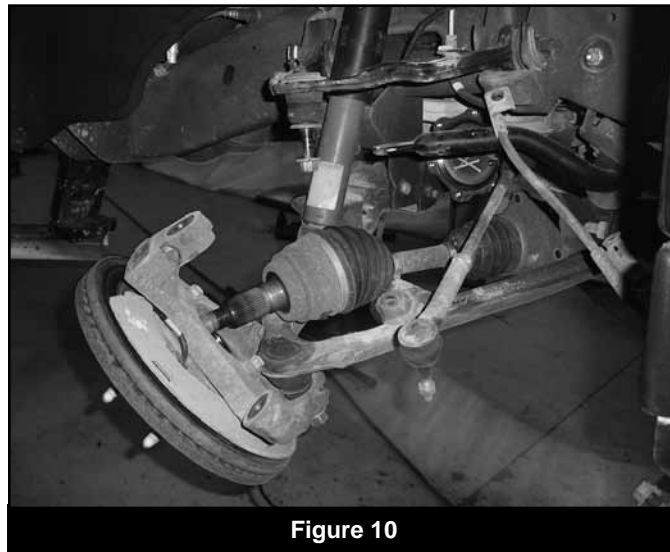

**Fig 8**
18. Carefully remove the hub dust cover. Save cover (Fig 8).